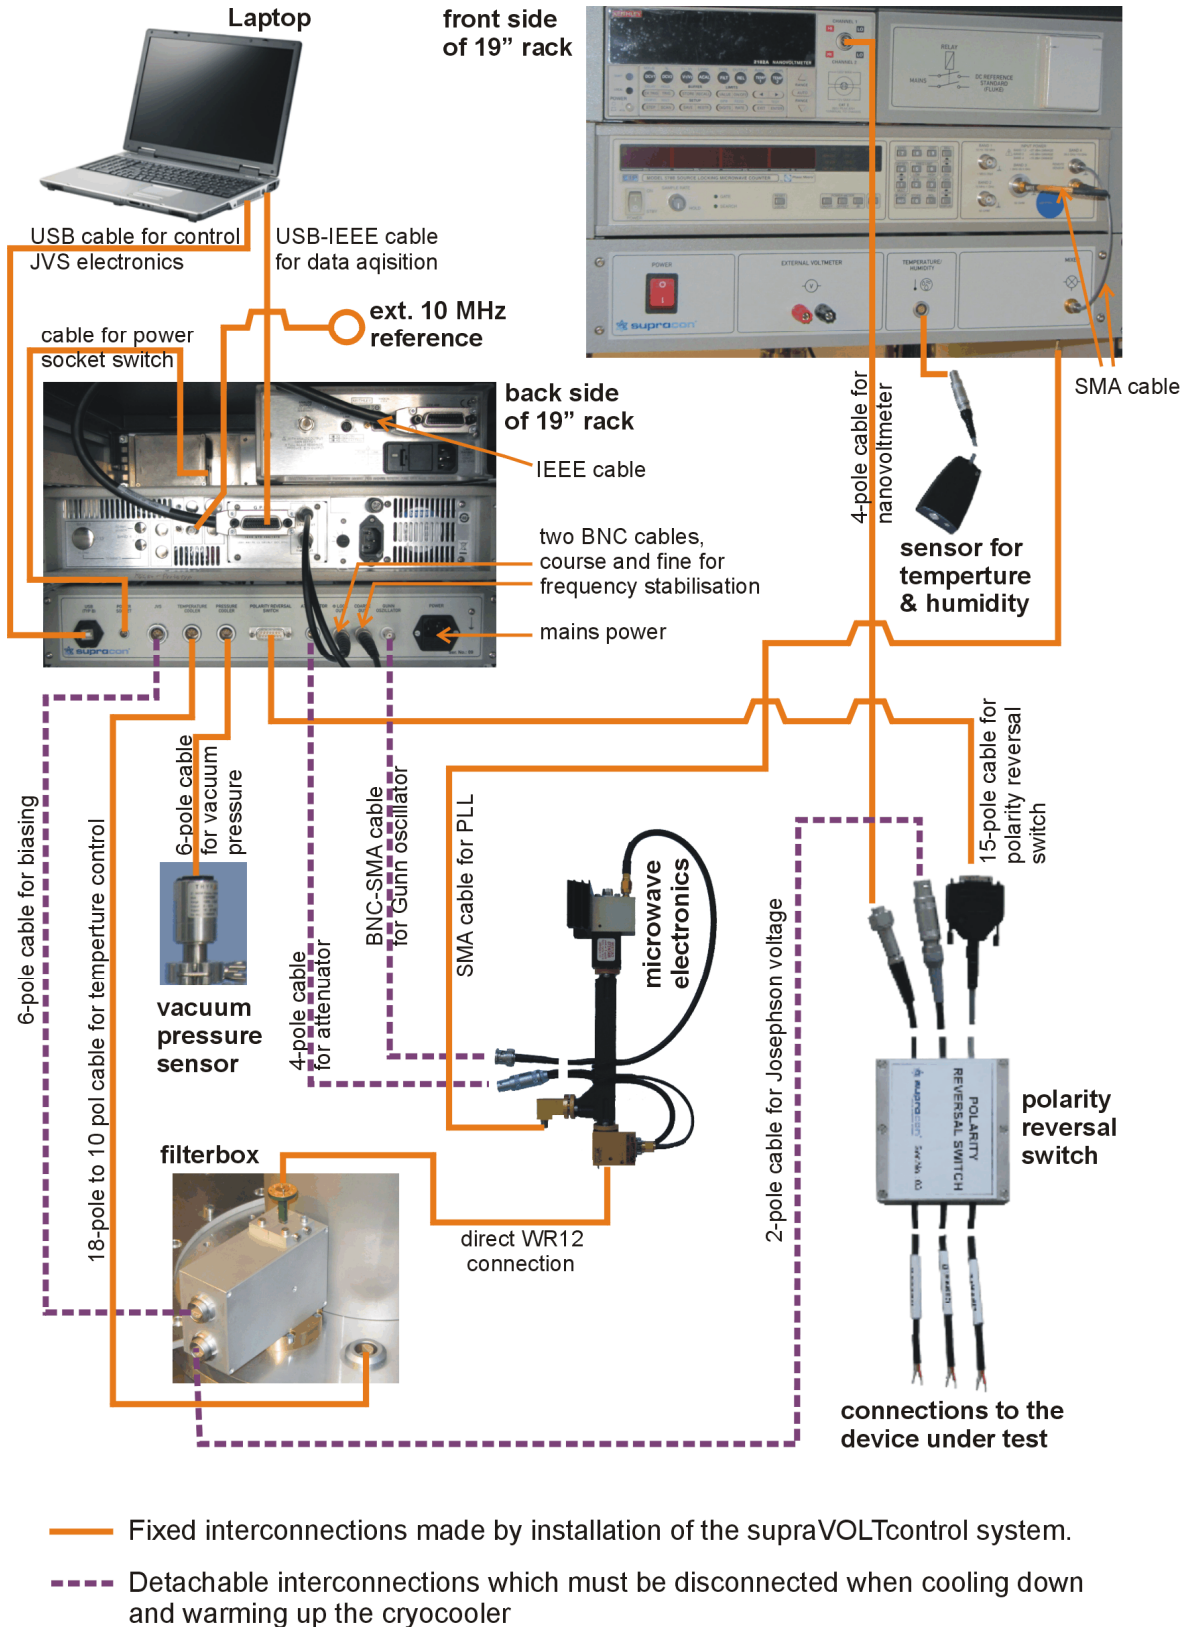

Figure 23: The interconnections of the supraVOLTcontrol system by operation with a cryocooler.
1. The fixed interconnections of the **supraVOLTcontrol** system must be already connected, see Figure 23.
4. Connect the detachable interconnections, see Figure 23. That means the Josephson voltage standard array is connected to the polarity reversal switch and the JVS electronics via the filterbox and the microwave electronics unit is connected to the EIP source locking microwave counter and the JVS electronics.